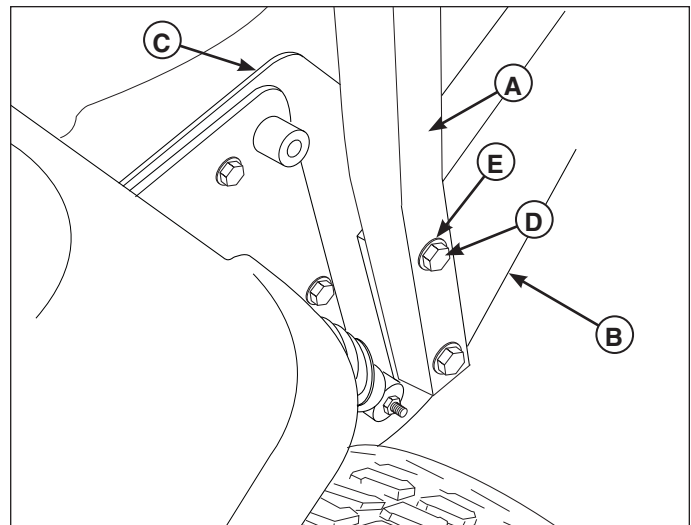

Figure 8. Install the Upright Tubes
2. Install the upright tubes (A) in between the bumper (B) and frame (C) as shown in Figure 8 and loosely reinstall the 1/2" hardware previously removed.
4. Tighten the hardware securing the upright tubes to the frame and bumper (see Figure 8). Torque the hardware to 75 ft. lbs. (102 Nm).
5. Tighten the 1/2" x 3" bolts and hex side lock nuts (C & E) securing the top loop (A) to the upright tubes (B). Do not over-tighten. The top loop should pivot snugly with the retainer pins removed.
6. Raise the top loop (A) until the rubber stops (F) contact the upright tubes.